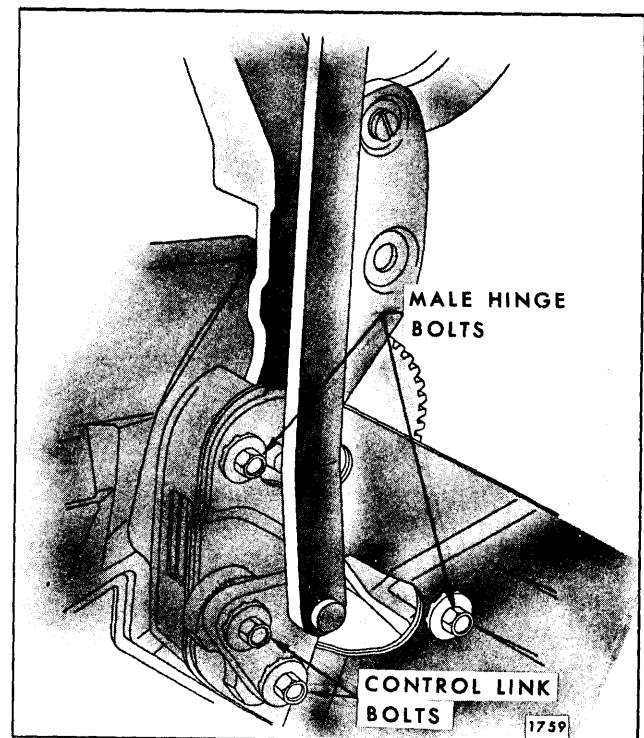

Fig. 13-87—Male Hinge and Top Control Link Attachment "Z" Styles
1. To tighten or increase locking action, turn lock hook clockwise (Fig. 13-87).
justing plate sufficiently to permit adjustment (Fig. 13-87).
- c. Loosen male hinge and control link attaching bolts (Fig. 13-87).
- b. Loosen male hinge and control link attaching bolts (Fig. 13-87).
- b. Loosen male hinge bolts and control link attaching bolts (Fig. 13-87).